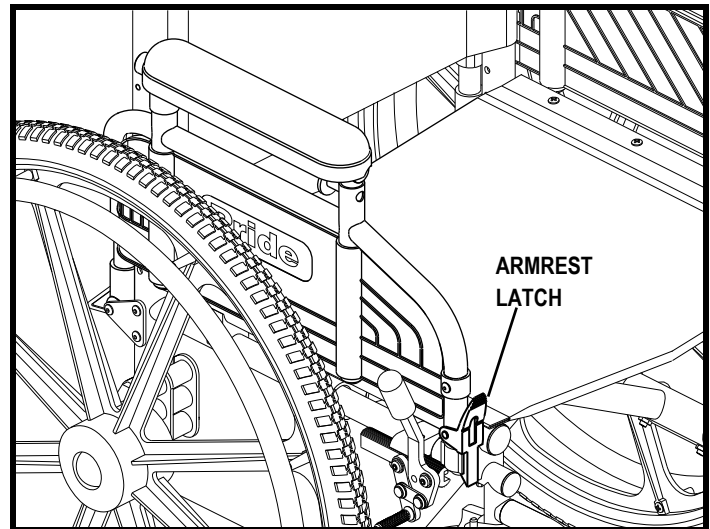

Figure 22. Flip-back Armrests
1. Squeeze the armrest latch to release the armrest. See figure 22.